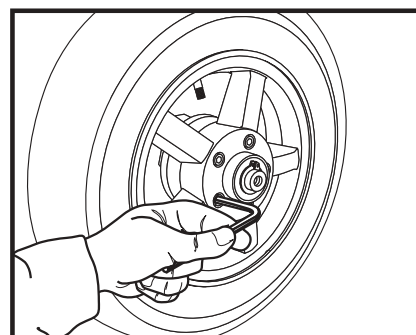

Figure 24. Brake Removal
5. Remove the 5 screws that fasten the brake to the rim. See figure 24.